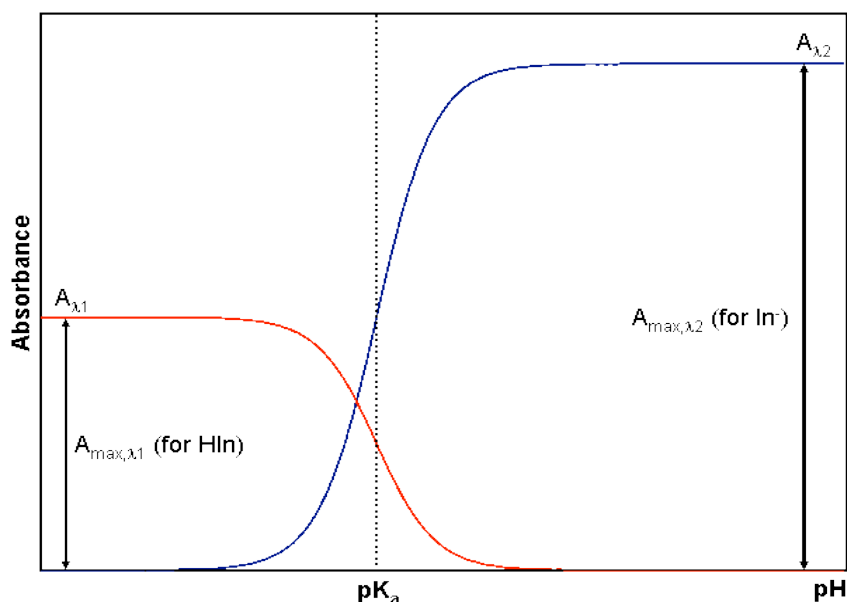

Figure 2: A plot of absorbance as a function of pH for an indicator.
An examination of eqn. (4) suggests that if we are able to monitor the relative concentrations of HIn and In⁻, it should be possible to determine the K_a for the indicator. Also, from eqn. (4), we note that when the concentrations of HIn and In⁻ in solution are equivalent, pH will be equal to the pK_a of the indicator. Experimentally, this corresponds to the pH where the absorbance of each form is half of its maximum absorbance. At this point, half of the initial number of moles of HIn has been converted to an equivalent number of moles of In⁻ as shown by the dotted line in the figure 2.